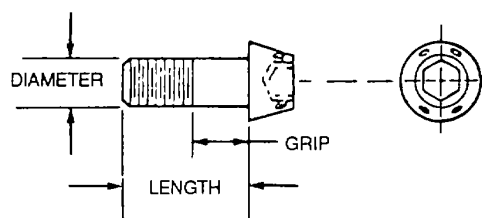

Figure 2-5. Internal Wrenching Bolt
h. Internal Wrenching Bolts. Internal wrenching bolts, as shown in figure 2-5, are high strength steel bolts used primarily in tension applications. The bolt hole must be countersunk or a high tensile countersunk washer must be used to clear the large corner radius of the shank at the head and give adequate bearing area. Use a high tensile plain washer under nut if required. Do not substitute common aircraft bolts and washers for high tensile bolts and washers.